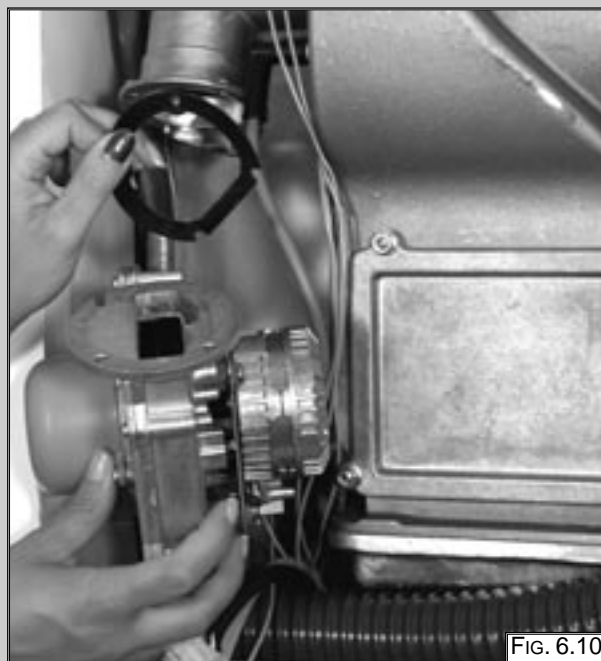

FIG. 6.10
4. Pull the fan away from the mixing tube (FIG. 6.10).